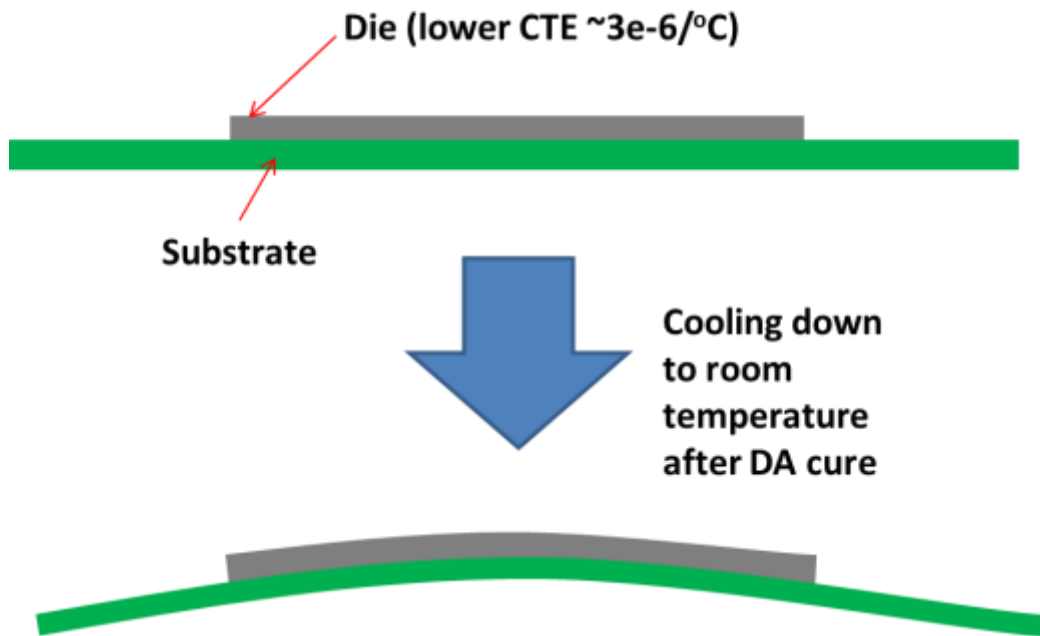

Fig. 5. Strip warpage failure mechanism.
- As supported by modeling, the strip warpage happens after cool down from die attach cure oven temperature to room temperature as shown in Fig. 5.